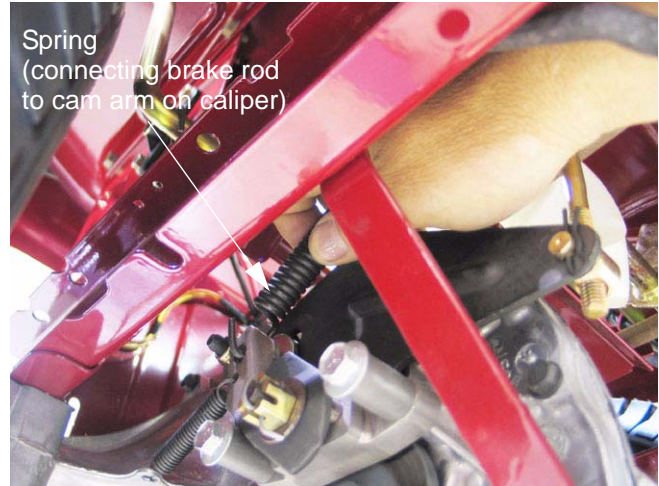

Figure 6.23
3. Pivot the spring that connects the brake rod to the caliper up and outward to unhook it. See Figure 6.23.